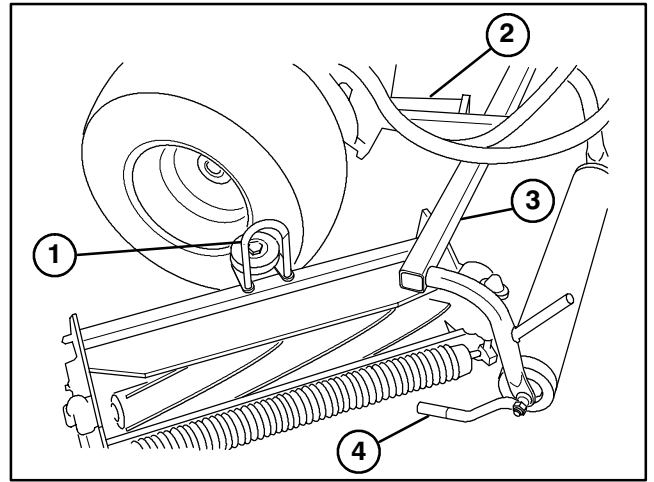

Figure 4
INSTALL CUTTING UNITS (Fig. 4–7)
2. Slide the cutting units under the pull frames and position the hoop on the top of cutting units over the lift arms (Fig. 4).